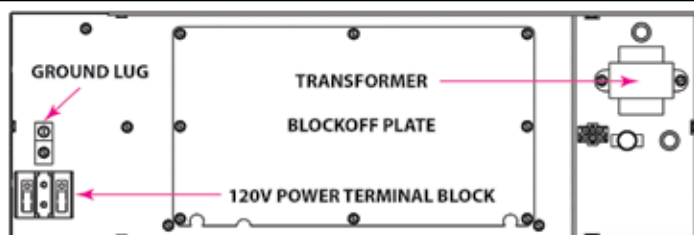

Figure 16: Component Locations – No Heat Control Box
2. Remove the block off plate shown in Figure 16 and discard. Retain the screws, they will be used to secure the electric heater mount plate.
FOR CIRCUIT BREAKER MODELS ONLY: After the supply wiring has been connected to the circuit breakers, remove the transformer and indoor blower motor wires from the power terminal block (See Figure 16) and connect them to load side of circuit breaker #1.